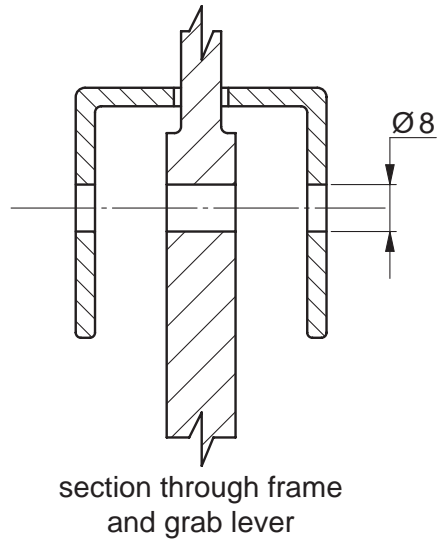

Fig. 2b
- (e) Draw on **Fig. 2b** a method which shows how the grab lever can be securely attached to the frame but allows the grab lever to pivot freely. [2]